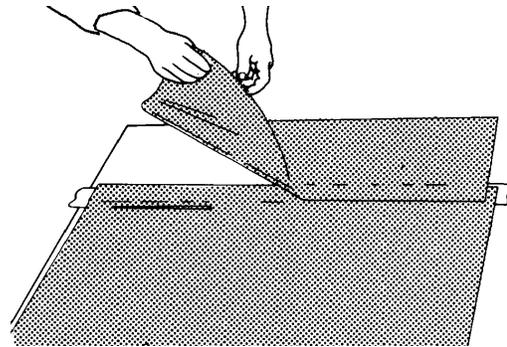

Figure 8. Applying the Second Piece of Film
6. Apply the second piece of film, making sure that it is wide enough to overlap the width of the cutting strip. See Figure 8.